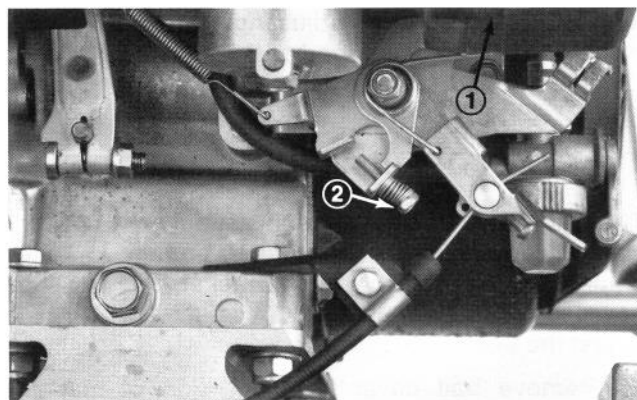

Figure 36
2. Adjust idle speed screws (Fig. 36) in or out to attain correct speed setting.